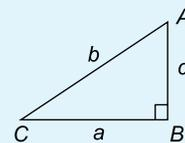

Figure 1.8
- In the right-angled triangle ABC shown in Figure 1.8, sine A is given by:
- In the right-angled triangle ABC shown in Figure 1.8, cosine C is given by:
- In the right-angled triangle ABC shown in Figure 1.8, tangent A is given by: